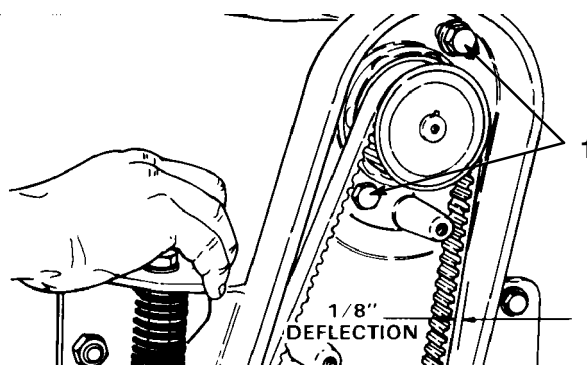

**Figure 11**
**Note:** Check to see that motor pulley set screws are tight on motor shaft before installing motor onto cutting unit (Fig. 11).
3. Insert the reel drive motor pulley through the housing and slip the cutting unit drive belt over the pulley (Fig. 11).